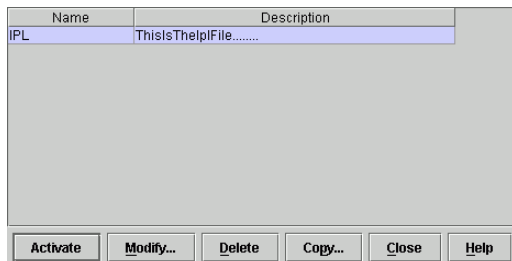

Figure 41 Address Configuration Library dialog box
1. Click **Configure > Addresses** on the menu bar and then click **Stored**. The Address Configuration Library dialog box displays, as shown in Figure 41.